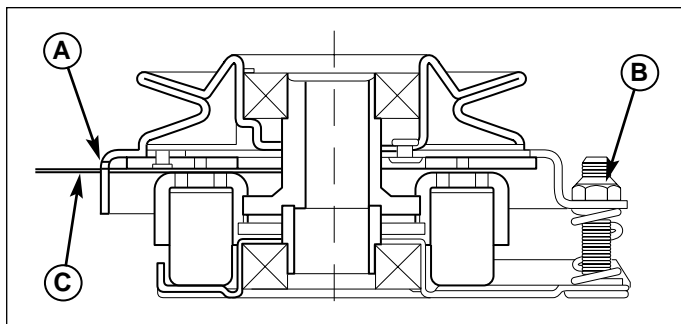

Figure 33. Adjust PTO Clutch
3. Insert a .012"-.018" (0,30-0,45mm) feeler gauge (C) through each window, positioning the gauge between the rotor face and the armature face as shown in Figure 33.